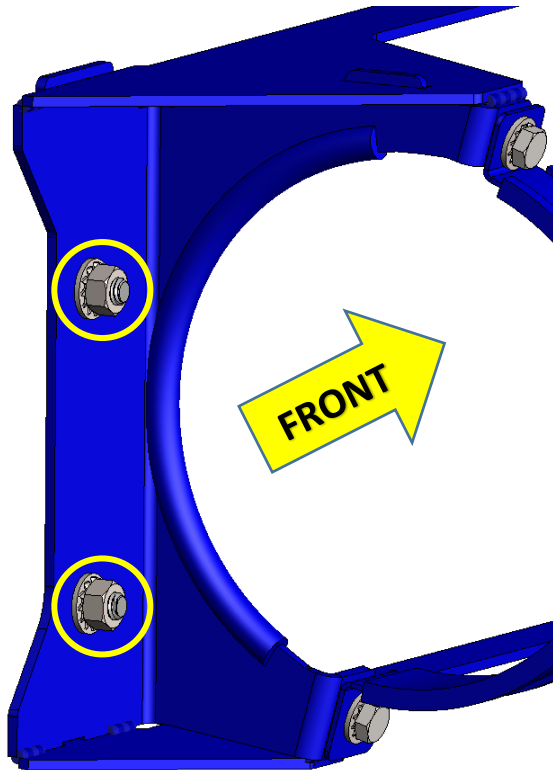

Figure 15 - RAPTOR-201 Hardware Location (left side)
10.3.1. Install RAPTOR-201 onto frame using hardware #2, #3, #5, #7, and #12 in left side holes, as shown Figure 15 below. *Hand tighten only*, to allow later adjustment.